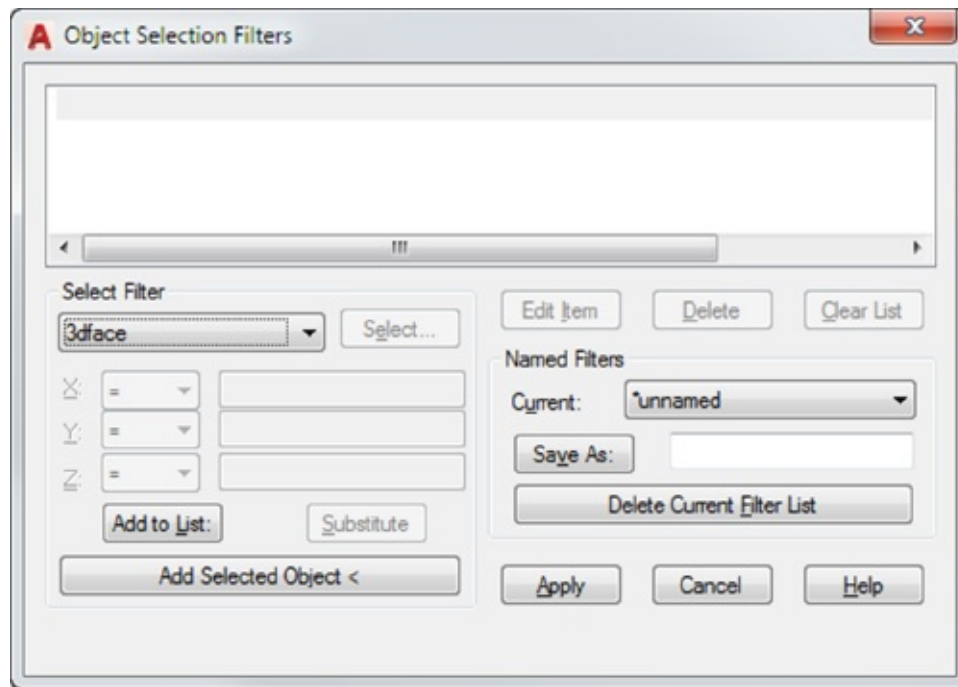

FIGURE 14.20 The Object Selection Filters dialog box
5. At the Select objects: prompt, type '**Filter**'↵ to open the Object Selection Filters dialog box (see Figure 14.20).